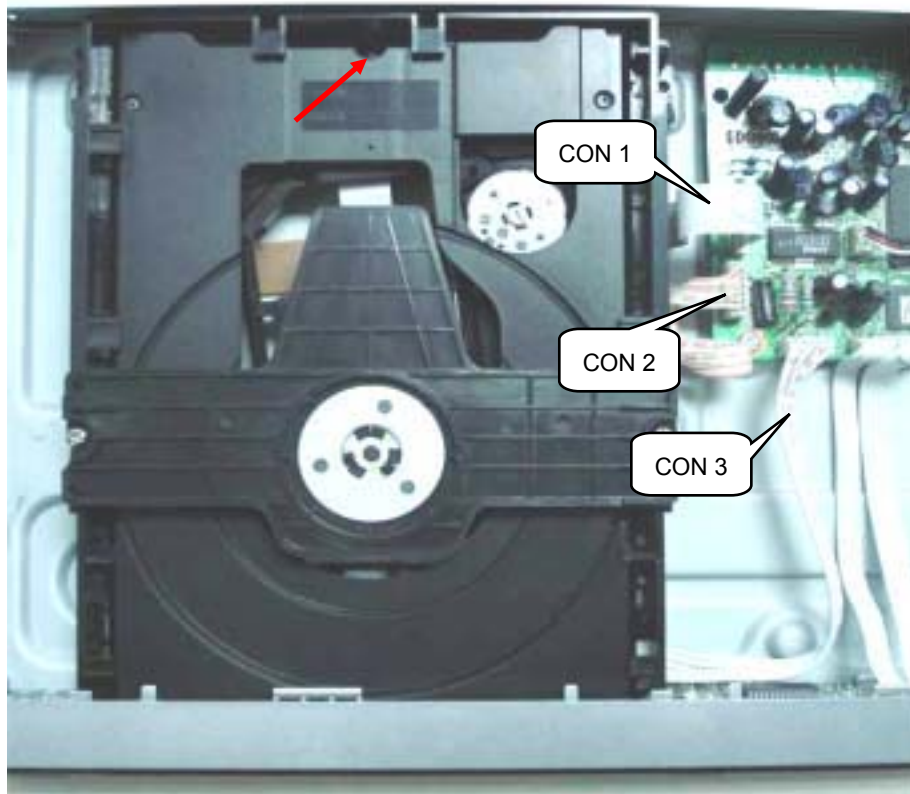

Figure 4
**Step4:** Dismantling Loader, disconnect the 3 connectors aiming in the below figure, and remove 1 screw around the Loader. (Figure 4)